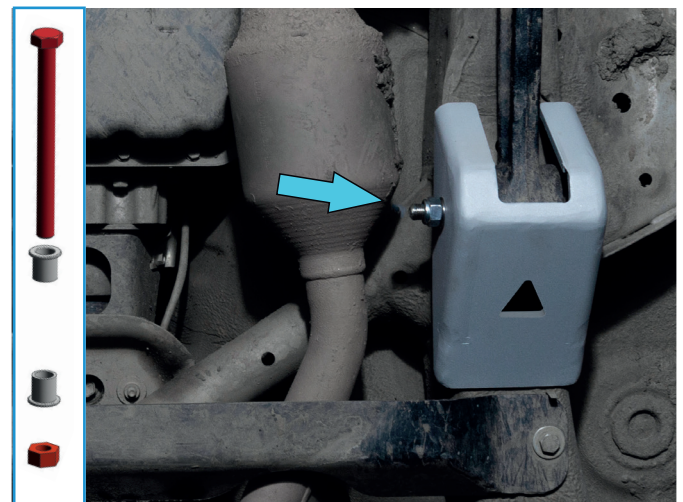

Fig. 4
4. Install the front radius arm skid plate (left) (item 4) on the radius arm and fix it using bolt M12x130, nut M12 and spacers (items A,B,C) as shown in fig. 4.